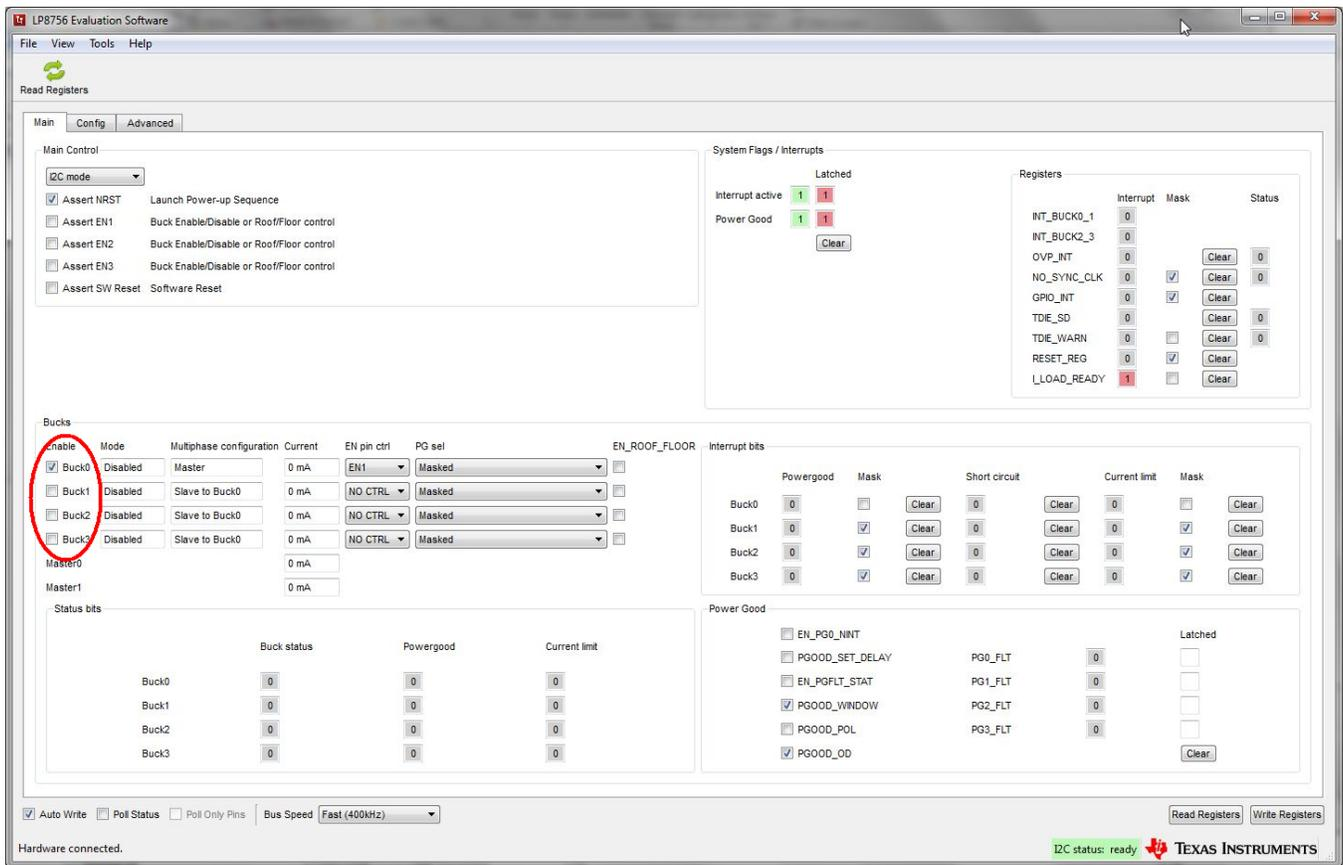

Figure 10. BUCK0 Enabled
4. Check the Enable for Buck0 (if it is not already checked) to enable it based on the EN pin setting (see Figure 10). If it is not assigned to an EN pin, it should show as Mode = Enabled after pressing read registers again (or setting the "Poll Status" check box in the bottom left corner). If it is assigned to an EN pin, it will stay disabled.